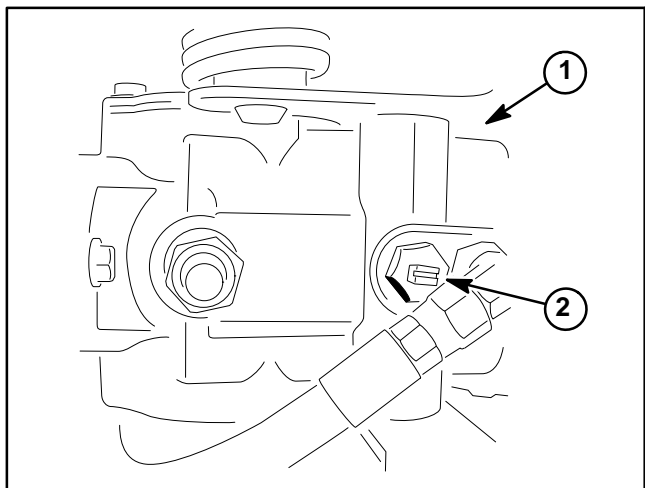

Figure 2
2. Locate by-pass valve on piston (traction) pump (Fig. 2). Rotate by-pass valve so slot is vertical.
5. If a torque wrench is not available or if space at the swivel nut prevents use of a torque wrench, an alternate method of assembly is the Flats From Wrench Resistance (F.F.W.R.) method (Fig. 2).